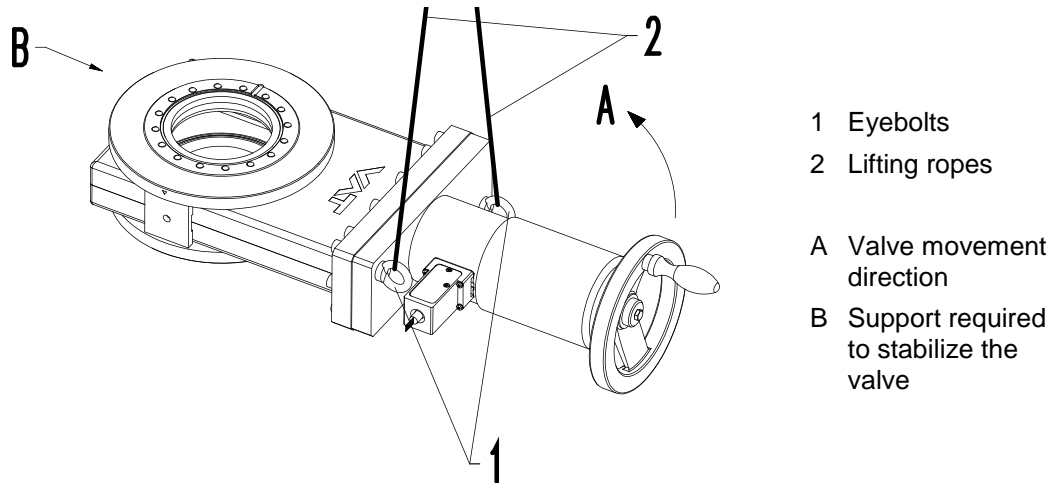

Figure 4-1
Open the plastic bag protecting the valve only at the points where you need access to the eyebolts (1) for fastening the crane hooks; see «Figure 4-1» on page 10. Keep valve in the plastic bag until it is being installed into the system.
<p>Wrong lifting Valve may crash and get damaged. Use only the eyebolts shown in the dimensional drawing and in «Figure 4-1» on page 10 to lift the valve. Using any other components (e. g. position indicators, solenoids) to lift the valve is strictly forbidden.</p>
Use a crane for lifting valves DN100 and larger out of the transport box; see «Figure 4-1».